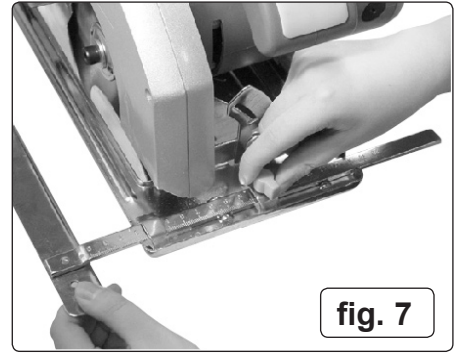

fig. 7
- 3.5.3 Slide the side fence with the measuring scale upwards into the pressed metal guides in the base plate as shown in fig.7. If necessary loosen the clamp knob to allow the guide to pass through. Set the guide at the required width and tighten the clamping knob.